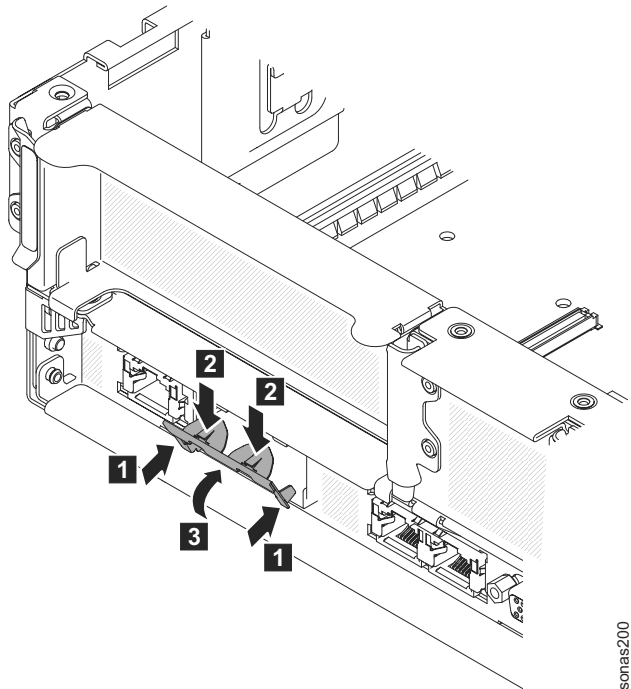

Figure 15. Location of the port openings on the chassis
7. Insert the bottom tabs of the metal clip into the port openings from outside the chassis. See Figure 15 on page 109.